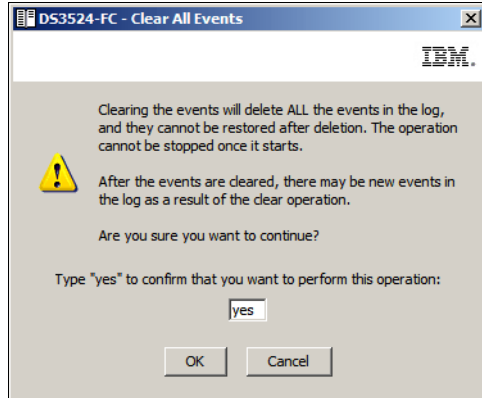

Figure 14-97 Event view - Confirm Clear All Events
- ▶ **Clear All:** Select this option to clear the event log. In the confirmation window (Figure 14-97), type yes to delete all the events. Save all event logs before clearing the log.